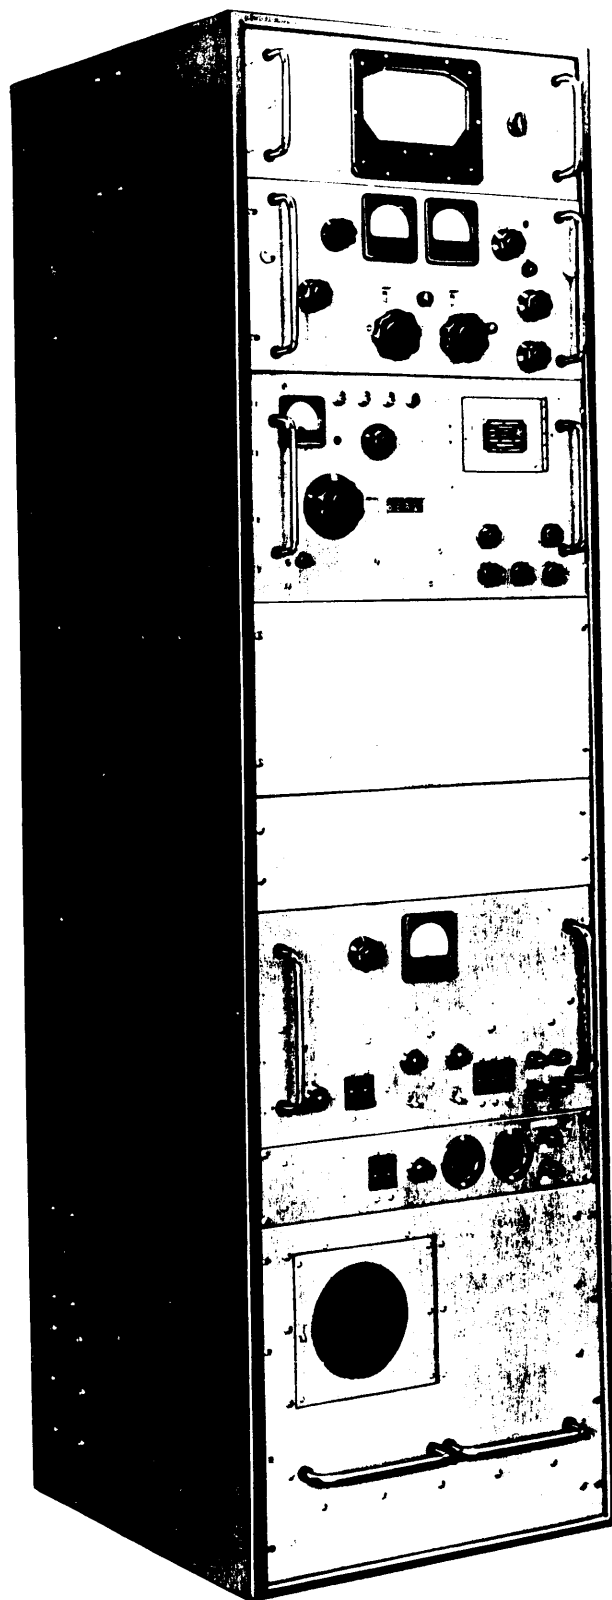

Figure I-1-1a. Front Angle View, SBT-1K(Q) General Purpose Radio Transmitter
Technical Materiel Corporation's General Purpose Radio Transmitter, model SBT-1K(Q) (see figures I-1-1a and I-1-1b) is basically a 1 kilowatt (PEP) linear power amplifier and master oscillator designed for use with various types of exciter units. The unit is capable of producing continuously adjustable radio frequency signals through the frequency range of 2 to 32 megacycles. The SBT-1K(Q) alone will only produce and amplify the basic carrier frequency. In order to transmit intelligence it must be used with a suitable exciter such as the TMC Transmitting Mode Selector model SBE-3 (AN/URA-28) or the TMC Frequency Shift Exciter model XFK (C-2749A/URT). Use of the above exciters will provide transmission of single sideband (double or independent), amplitude modulated, continuous wave (telegraphy), teletype, or facsimile signals.
The SBT-1K(Q) shown in figures I-1-1a and I-1-1b is contained in a single relay type equipment rack measuring 72-1/2 inches high x 20-5/8 inches wide x 22-1/2 inches deep. The front of the rack is open to allow for mounting, maintenance and operation of the various components. The rear of the rack contains
The following paragraphs briefly describe each unit mounted in the rack as they appear in figure I-1-1a reading from top to bottom.